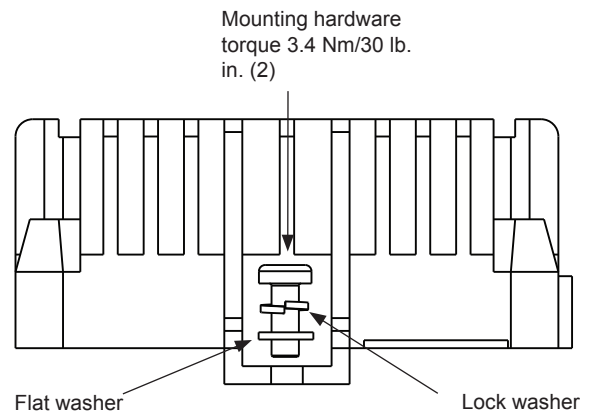

Figure 4: Mounting N3001 Regulator
1. Align regulator tabs with screw holes on alternator shell and secure with mounting screws. Torque screws to 3.4 Nm/30 lb. in. See Figure 4.